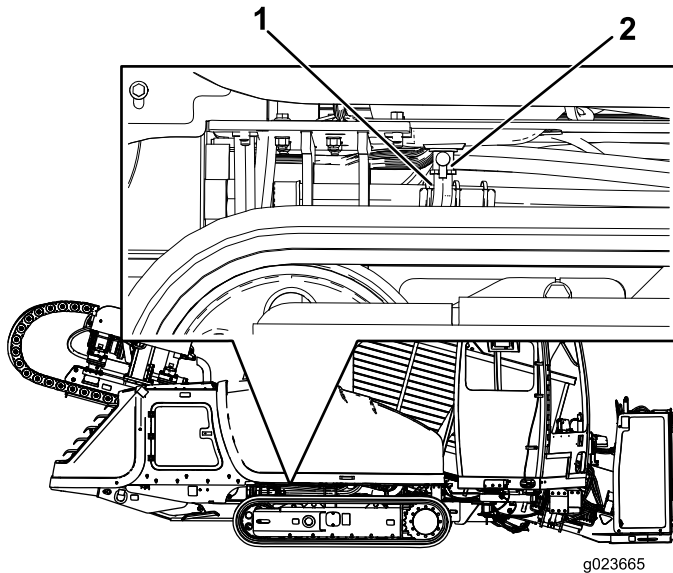

Figure 124
2. Ensure that the drain hose (Figure 124) is carefully pulled up and the end of the hose is placed in a drain pan.
3. Open the drain valve (Figure 124).
5. When the oil stops, close the drain valve (Figure 124).
6. Place the drain hose back into the original position (Figure 124).